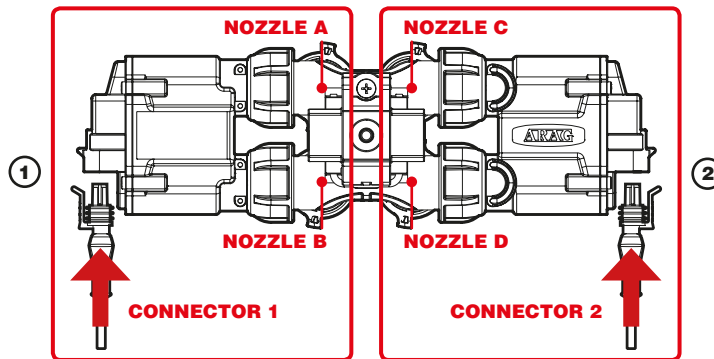

Fig. 89
- 1 Connect in sequence **ONLY SELETRON NOZZLE HOLDERS A AND B**, from left to right until the end of the boom (**connector 1** in Fig. 89).